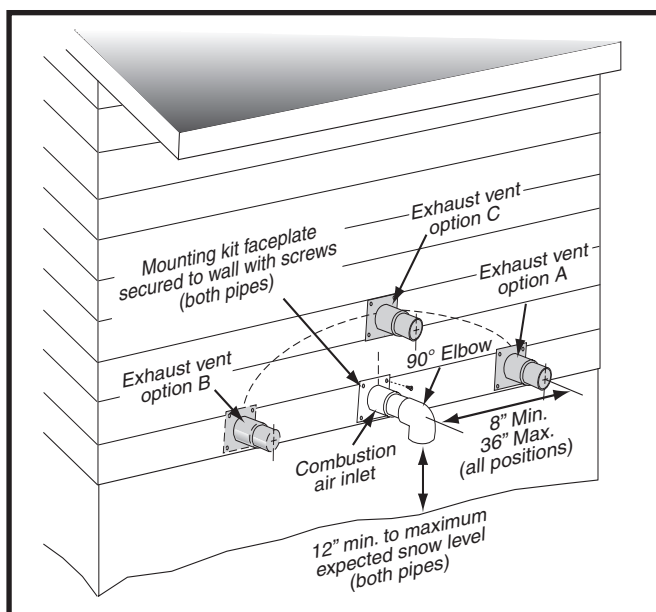
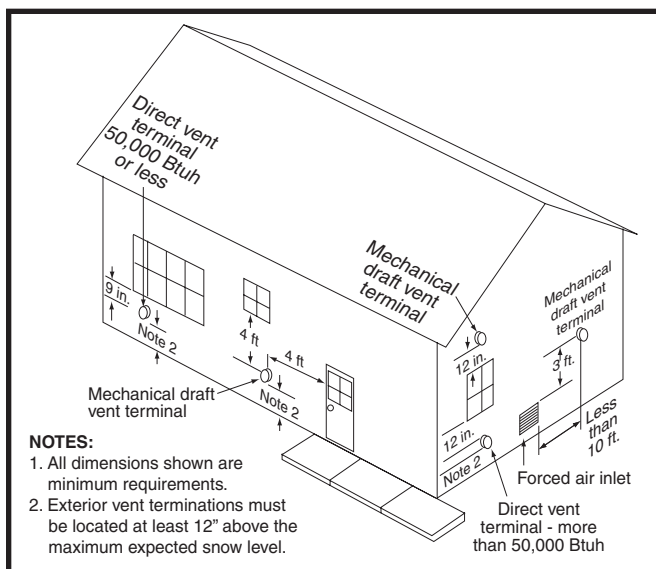
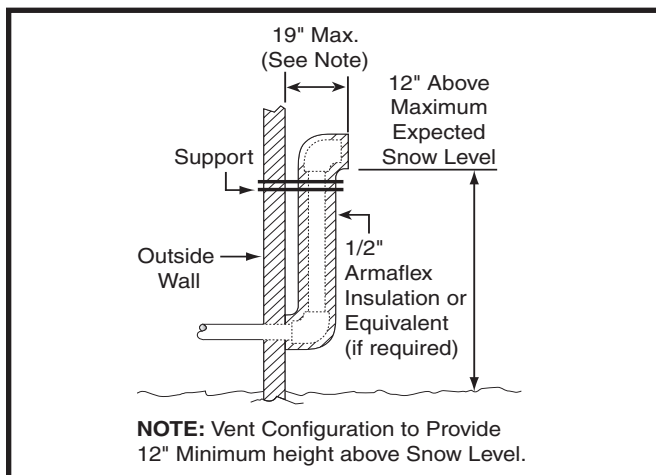
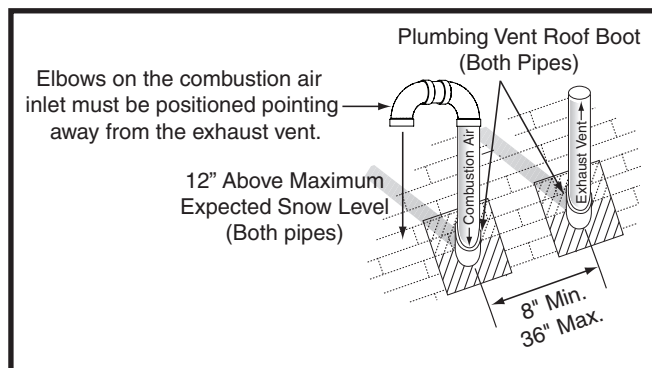

Figure 1. Inlet & Exhaust Pipe Clearances
Figure 2. Vent Locations
Figure 3. Alternate Horizontal Vent Installation
Figure 4. Vertical Vent Termination
- When a 2-pipe system is used, the combustion air intake and the vent exhaust must be located in the same atmospheric pressure zone. This means both pipes must exit the building through the same portion of exterior wall or roof as shown in Figure 1, Figure 2 & Figure 4 and Figure 33.
- Vent and combustion air intake terminations shall be installed as shown in Figure 1, Figure 2, Figure 3, & Figure 4 and in accordance with these instructions:
- All minimum clearances (Figure 2) must be maintained to protect building materials from degradation by flue gases.
- When the vent pipe must exit an exterior wall close to the grade or expected snow level where it is not possible to obtain clearances shown in Figure 1, a riser may be provided as shown in Figure 3. Insulation is required to prevent freezing of this section of pipe. See Table 3 for vent freezing protection.
Termination spacing requirements from the roof and from each other are shown in Figure 4. The roof penetration must be properly flashed and waterproofed with a plumbing roof boot or equivalent flashing. Vent and combustion air piping may be installed in an existing chimney which is not in use provided that:
- The termination clearances shown in Figure 4 are maintained.